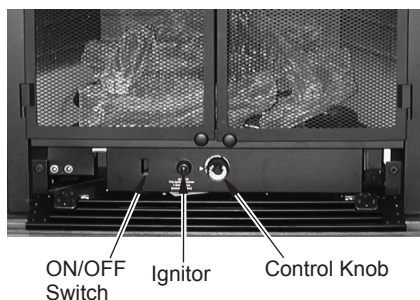

Figure 21 - Heater Control Locations
- 4. Turn control knob clockwise  to the OFF position (see Figure 21).
- 5. Wait five (5) minutes to clear out any gas. Then smell for gas around heater and near the floor. If you smell gas, STOP! Follow "B" in the safety information above. If you do not smell gas, go to the next step.
- 6. Turn control knob counterclockwise  to the PILOT position. Press in control knob for five (5) seconds.